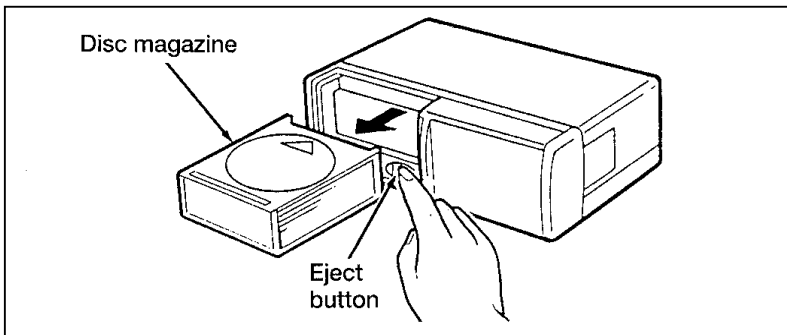

Figure 2
2. Push the "▲" button to eject the disc "magazine" (holds 6 discs) (Figure 2).